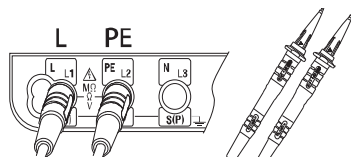

Fig.47
2. Insert the Test Leads into the instrument. (Fig.47)